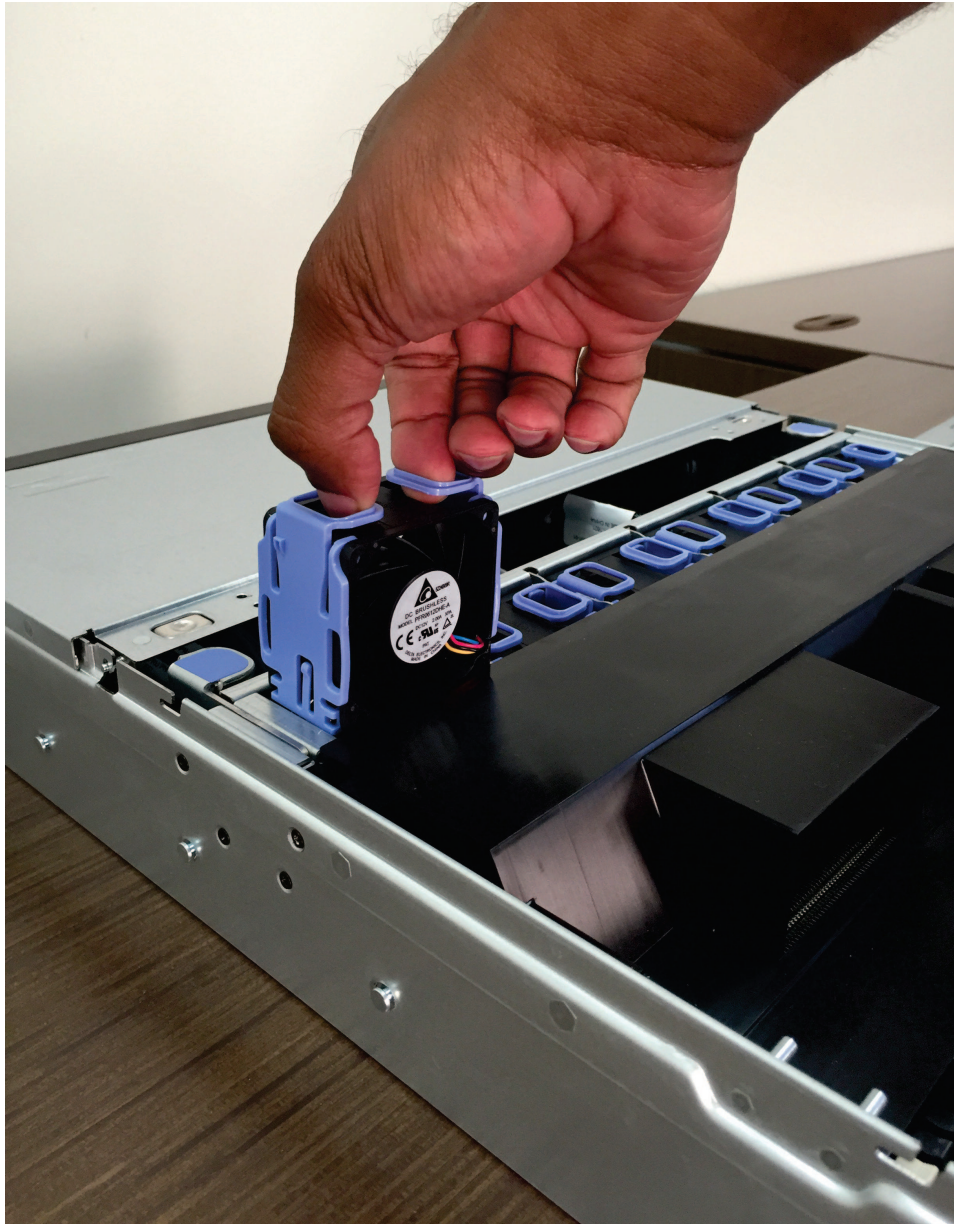

Figure 278. Replacing a 2145-SV1 fan
4. Insert the fan into the fan slot in the fan-assembly bracket, and press it down until it is seated, as shown in Figure 278 on page 336.